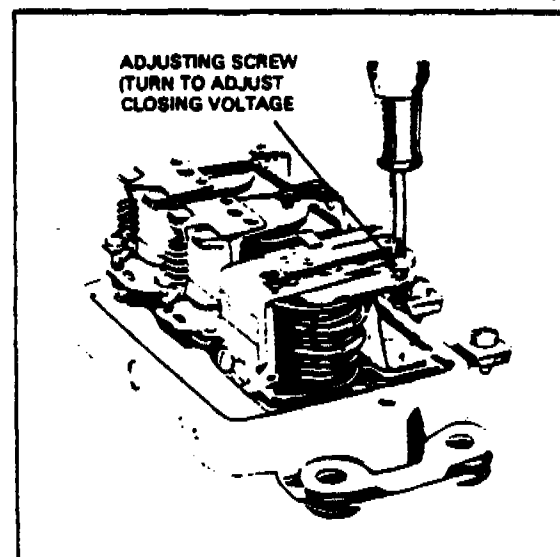

FIGURE 9-12. ADJUSTMENT OF CUTOUT RELAY CLOSING VOLTAGE
d. Adjust closing voltage by turning adjusting screw (Figure 9-12). Turn screw clockwise to increase setting and counter-clockwise to decrease setting.